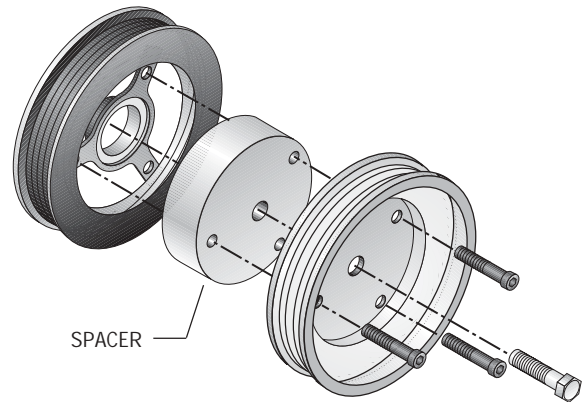

Fig. 2-a
- K. Remove the installation tool and place the supercharger drive pulley and spacer on the front of the harmonic balancer. (See Fig. 2-a.) Feeling for alignment, start the supplied M12 x 1.5 x 65mm center screw and rotate the supercharger drive pulley until the three screw holes are aligned. Start the three M10 x 1.5 x 40mm cap screws with washers, evenly tighten all beginning with the center screw. Torque the M12 screw to 80 ft/lbs and the M10 screws to 25 ft/lbs.